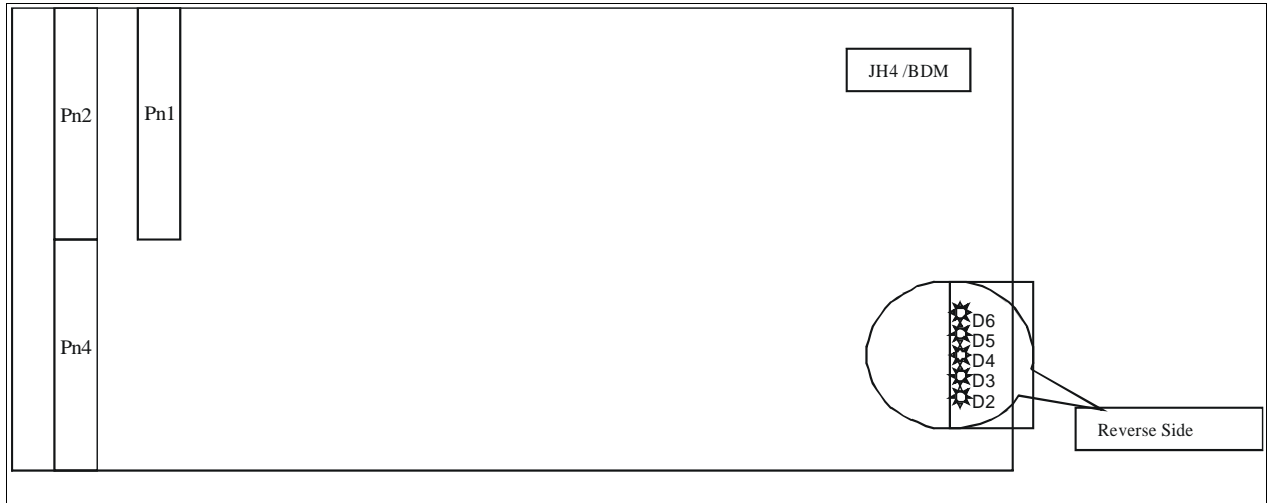
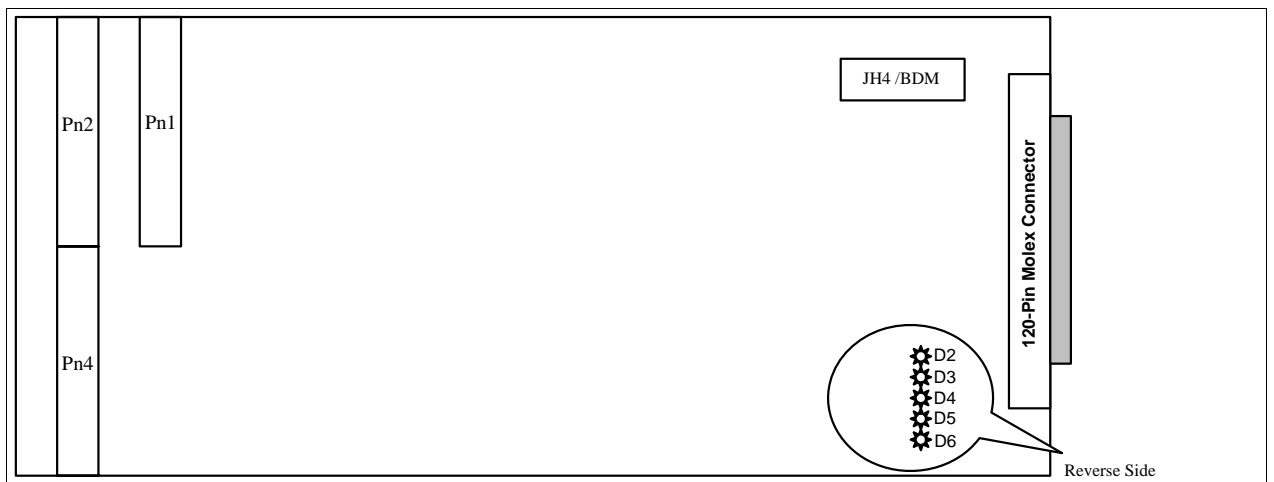

Figure 2 : Connector Pin and Indicator Positions
Figure 3 : HSS Frontpanel Pin and Indicator Positions
The PMC interface allows the HSS PMC I/O Adapter to be fitted on any host carrier card conforming to the PMC specification. The serial interfaces of the HSS PMC I/O Adapter are routed through the PMC connector Pn4 [Figure 2].
The HSS PMC I/O Adapter provides five indicators for reporting hardware and software status. Refer to [Figure 2] for indicator placement. The following table describes the use of each indicator :
The HSS PMC I/O Adapter communicates with the user through rear I/O, using the Pn4 connector on the PMC [See Figure 2], or through a 120-pin Molex connector on HSS Frontpanel (FP) adapters [See Figure 3]. The pin-outs and signal descriptions are given in [4.2].